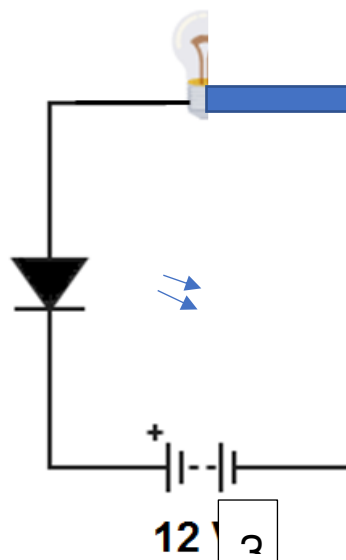

Figure 4
3. In Figure 4, the LED _____.